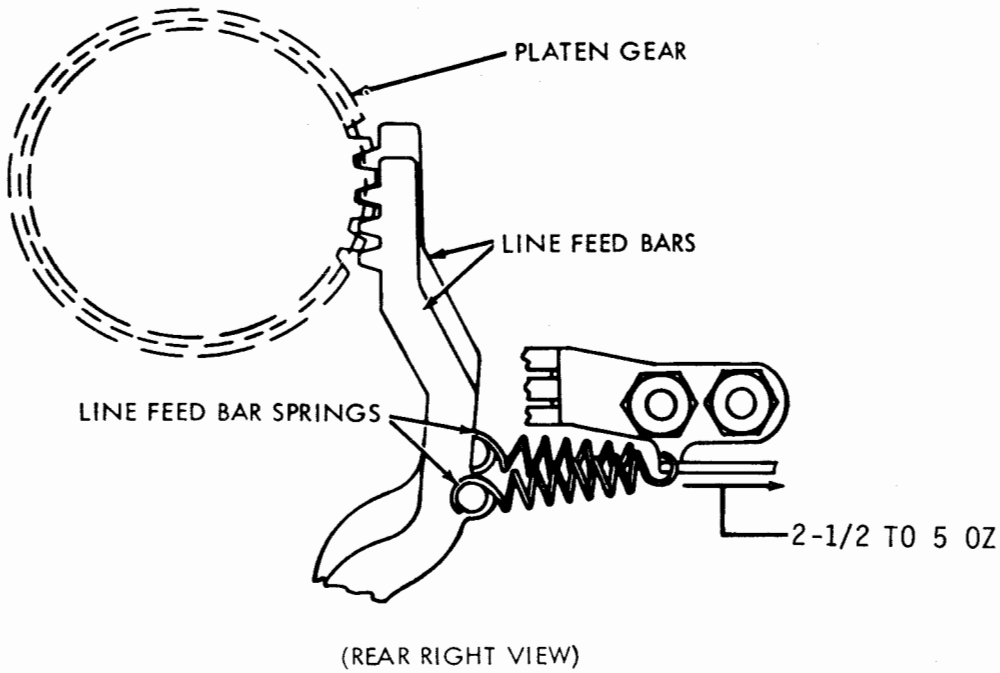

Figure 6-205. Line Feed Bar Springs
(5) Line Feed Bar Springs. Adjust line feed bar springs as follows:
- (a) Refer to figure 6-205.